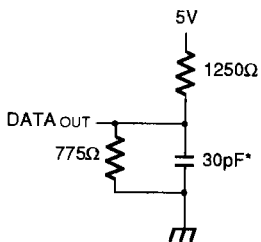

Figure 1. Output Load
Output Load	See Figures 1, 2 & 3
1. Transition is measured ±500mV from low or high impedance voltage with load (Figures 1, 2 and 3).
1. Transition is measured $\pm 500mV$ from low or high impedance voltage with load (Figures 1, 2 and 3).